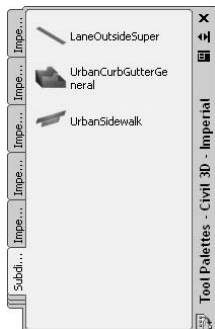

Figure 2.24
14. Using the same eyedropper technique, drag the UrbanCurbGutterGeneral and UrbanSidewalk subassemblies to your palette. When complete, your palette should look something like Figure 2.24.